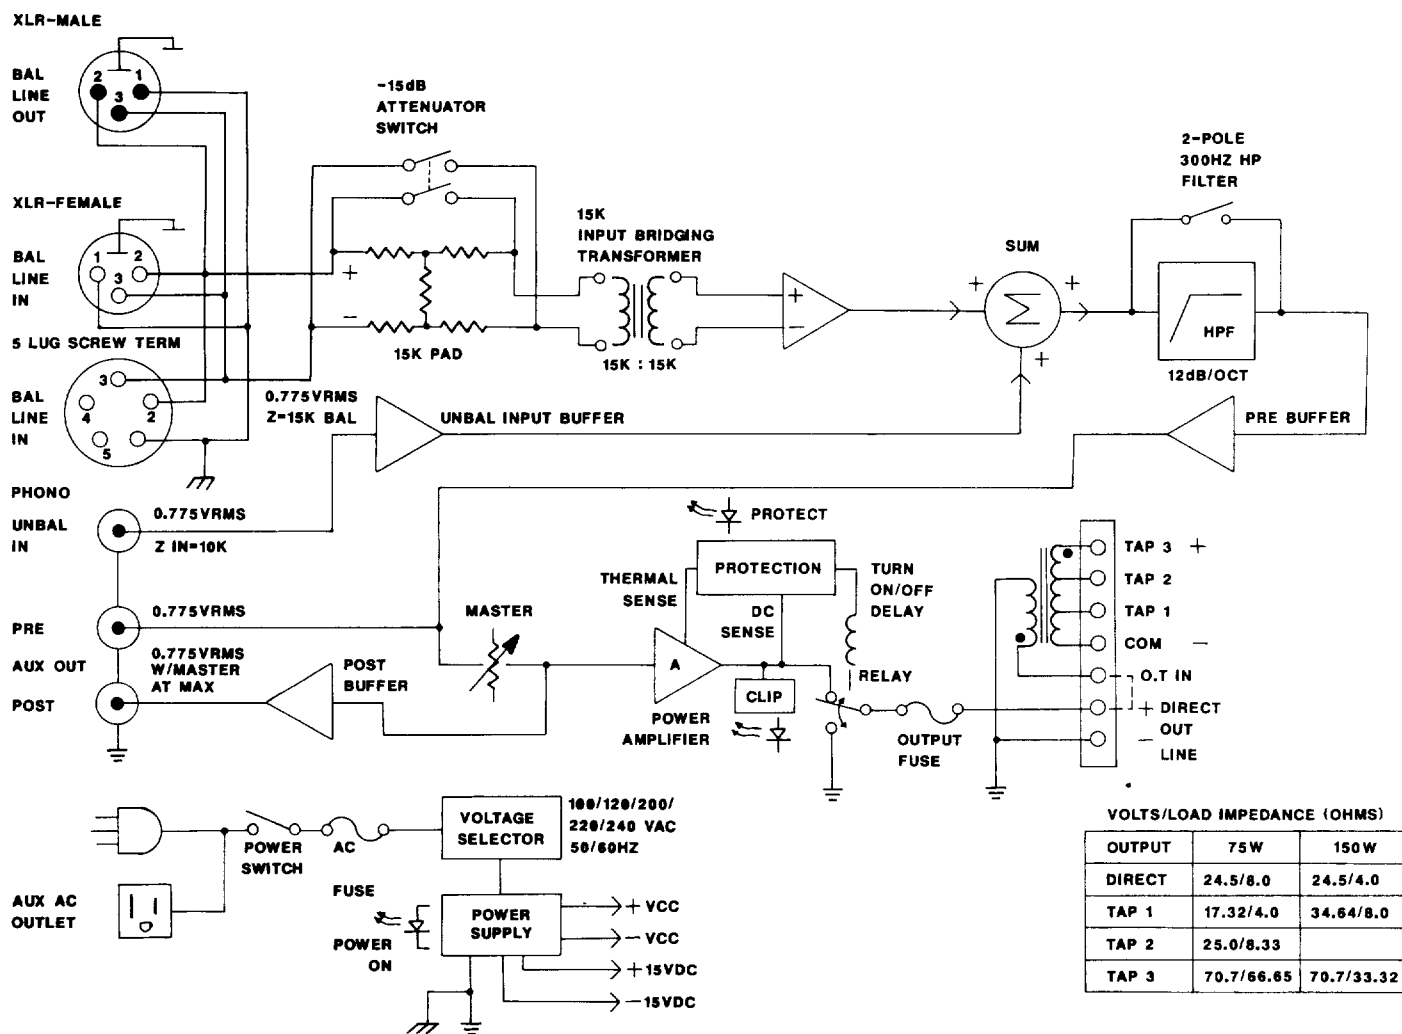
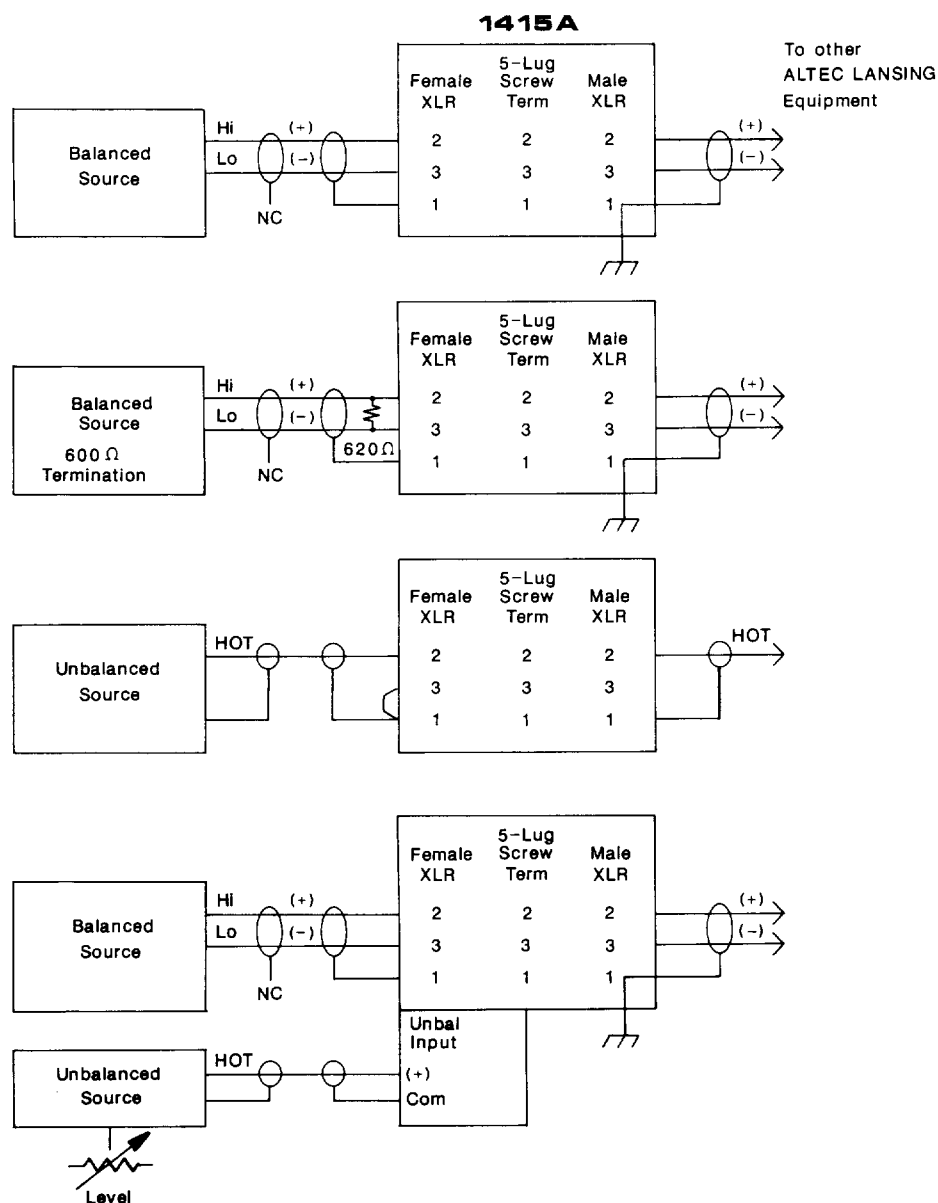

Figure 4. Power Amplifier Block Diagram
Figure 5. Typical Input Connection Options
A block diagram of the power amplifier is shown in Figure 4. Study it carefully. A good understanding of the amplifier is mandatory if it is to be utilized to its fullest extent.
Since the input transformer provides a bridging (high impedance) input, many amplifiers may be "paralleled" and driven from a single source. However if only one amplifier is used and the driving source requires a terminating resistor, a 600 Ω (or other appropriate value) resistor should be installed between terminals 2 and 3 of the 5-lug screw terminal connector. Refer to Figure 5 for some typical input configurations.
mixer such as the 1700B. One word of caution, however, the unbalanced input signal is mixed in equal proportion to the balanced input signal and no means exist within the amplifier to perform "mixing" via level controls or trims. Therefore, any level adjustments must be done at the signal sources. Refer to Figure 4.
An XLR-male connector wired in parallel with the balanced input connector(s) provides a signal "flow-thru" connection or patch point to another amplifier. The LINE OUT capabilities are limited only by the driving source feeding the amplifier. Refer to the block diagram shown in Figure 4 and to the typical input connections in Figure 5.
4. Verify that the input connections are properly made. Refer to Figure 5, and Sections 3.1 and 3.2.